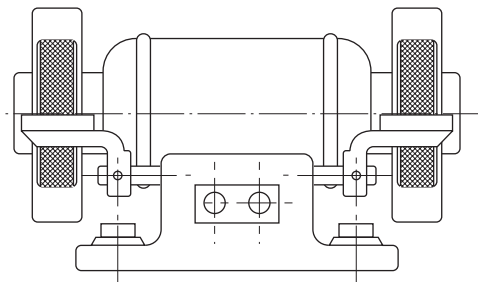

Figure 2
- (A) The safety officer
- (B) The OHS committee
- (C) The workplace cleaner
- (D) All people in the workplace
- (A) Detail drawing
- (B) Geometric drawing
- (C) Sub-assembly drawing
- (D) General assembly drawing
- 6 A bench grinder is shown in Figure 2.
What should be checked, and adjusted if required, before the grinder shown in Figure 2 is used?